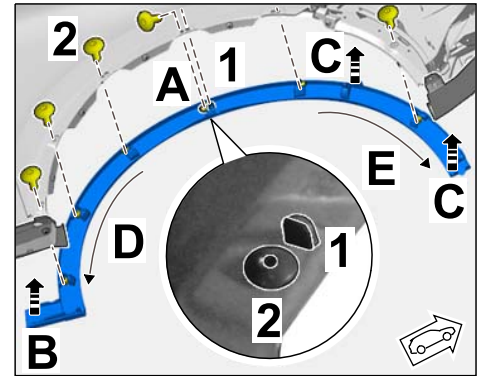

Figure 6
- 2.2 Position pin at the very top clip (at 12 o'clock position) in the fender and screw TP4 x 14 screw (1 x) into the clip on the wheel cover (⇒ *Figure 6 -A-*).
- 2.3 Clip in wheel cover holder in the fender area (⇒ *Figure 6 -B-*).
- 2.4 Clip in wheel cover in the front apron area (2 x ⇒ *Figure 6 -C-*).
- 2.5 Screw TP4 x 14 screws (5 x) into the remaining clips on the wheel cover in accordance with the tightening sequence (⇒ *Figure 6 -D-* and ⇒ *Figure 6 -E-*).